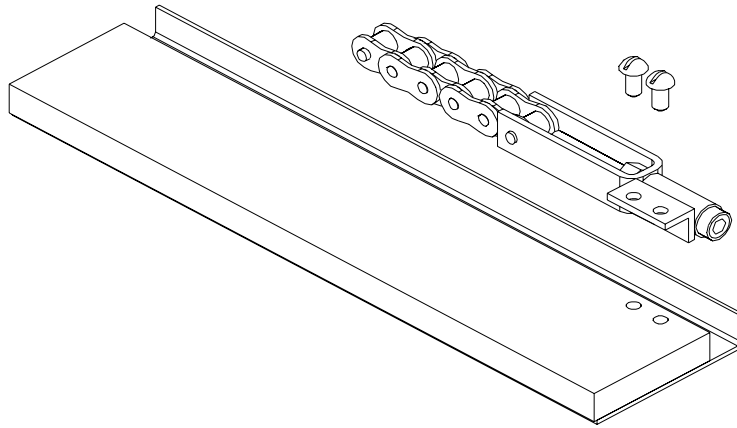

Figure 6
1. Prior to mounting any bases, if used, the floor chain assembly must be laid in the chain channel and secured at each end. (See Figure 6)